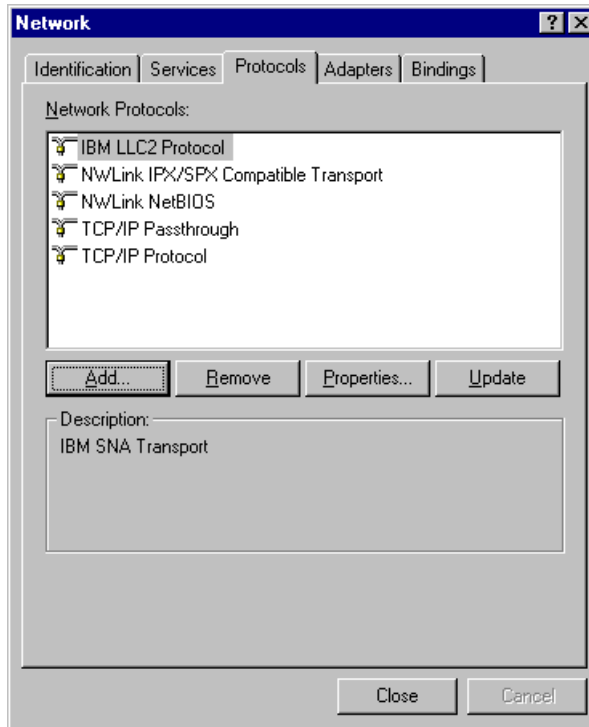

Figure 9-11. Network Protocol Dialog Box
2. The standard network configuration panel will appear. Click on **Protocols** to display a list of installed protocols (Figure 9-11).